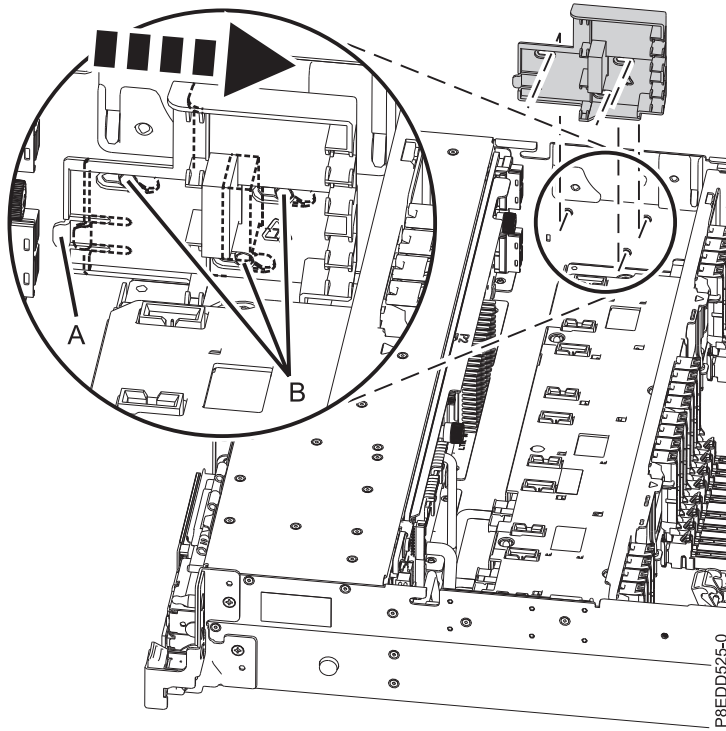

Figure 135. Replacing SAS cable guide
18. Replace the SAS cable guide by inserting the slots on the guide over the pins **(B)** on the chassis. Grasp the tab **(A)** of the guide and push the guide toward the rear of the system. Push the guide back until the slots are seated on the pins **(B)** and the tab **(A)** of the cable guide latches. See Figure 135 on page 137.